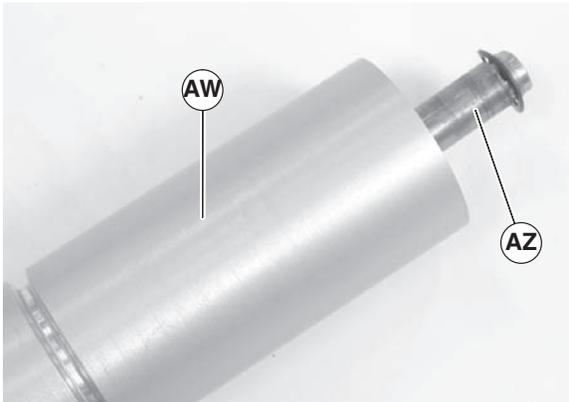

Figure 39
- Slide the shaft assembly (Figure 39, item AZ) out of the pulley (AW).